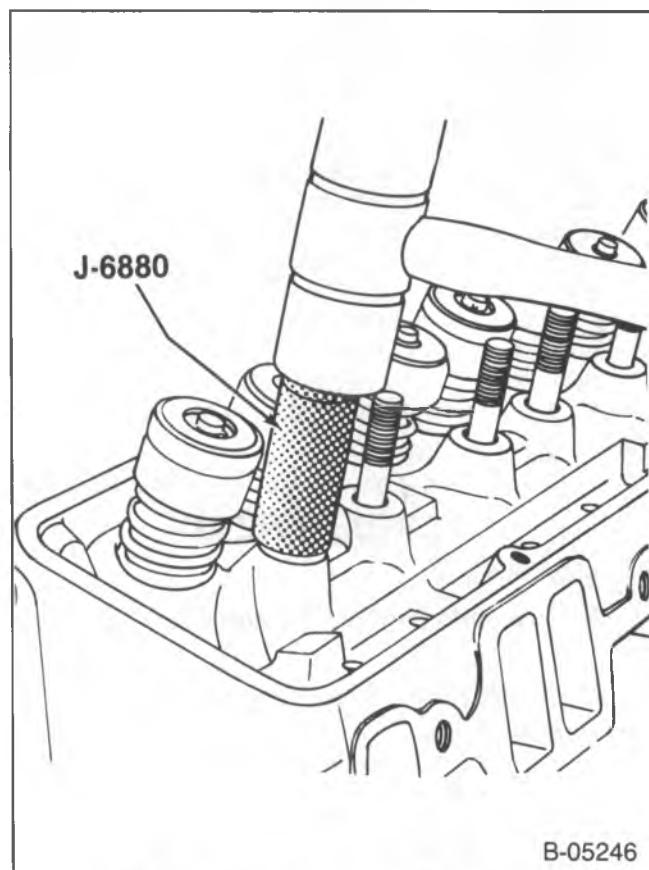

Figure 38—Installing the Rocker Arm Stud
3. Coat lower end (press-fit area) of stud with hypoid axle lubricant. Drive the stud into place with a hammer and tool J-6880. Stud is installed to proper depth when the tool bottoms on the cylinder head (figure 38).